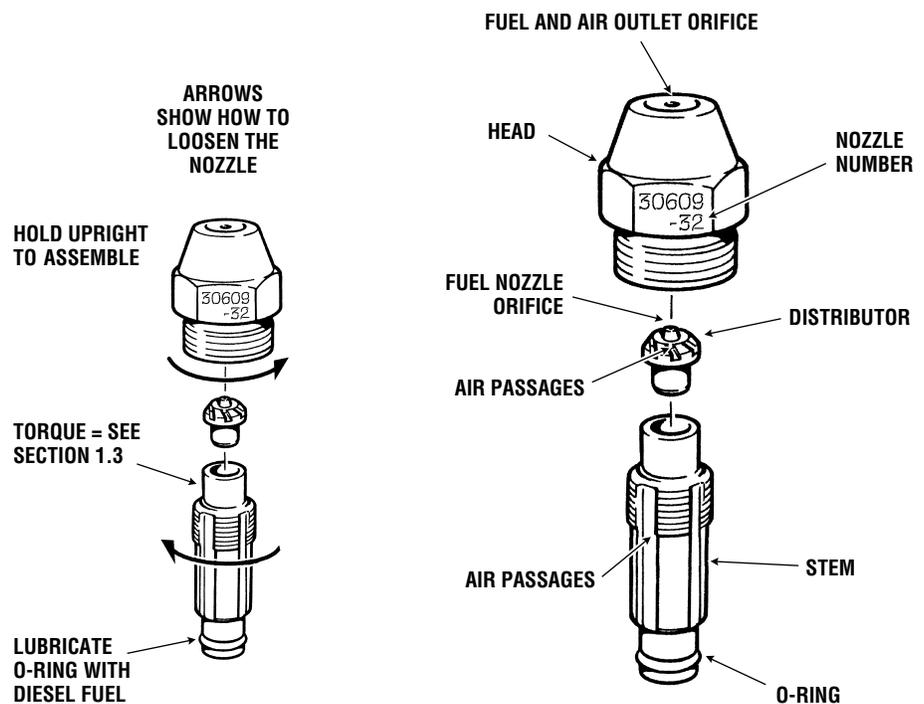

Figure 4-23. Fuel Nozzle Assembly
1. Remove three (3) bolts from the fan end and open up heater.
3. Disassemble, inspect, clean, and reassemble fuel nozzle (Figure 4-23).